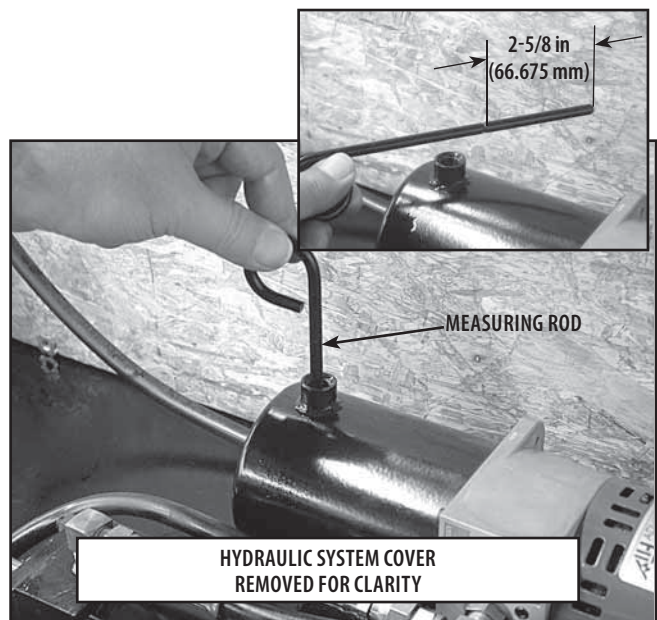

FIGURE 5.18
1. With the Access Cap and Vent Plug removed, insert the marked Measuring Rod into the reservoir until it touches the bottom. Remove the Measuring Rod and check oil level. Proper level is 2-5/8 in (66.675 mm) from the bottom of the reservoir. See Figure 5.18.